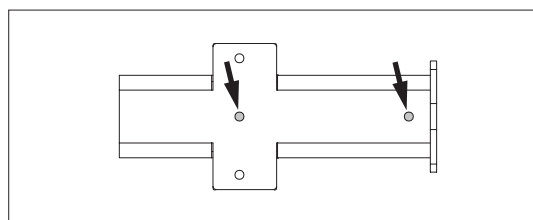

Fig. C3.04b
3. Align Girder VT 20 on the adapter (**15**) accordingly and secure with 2 Torx screws 6 x 60 (**99**) per adapter. Use the marked screw holes. (Fig. C3.04b)